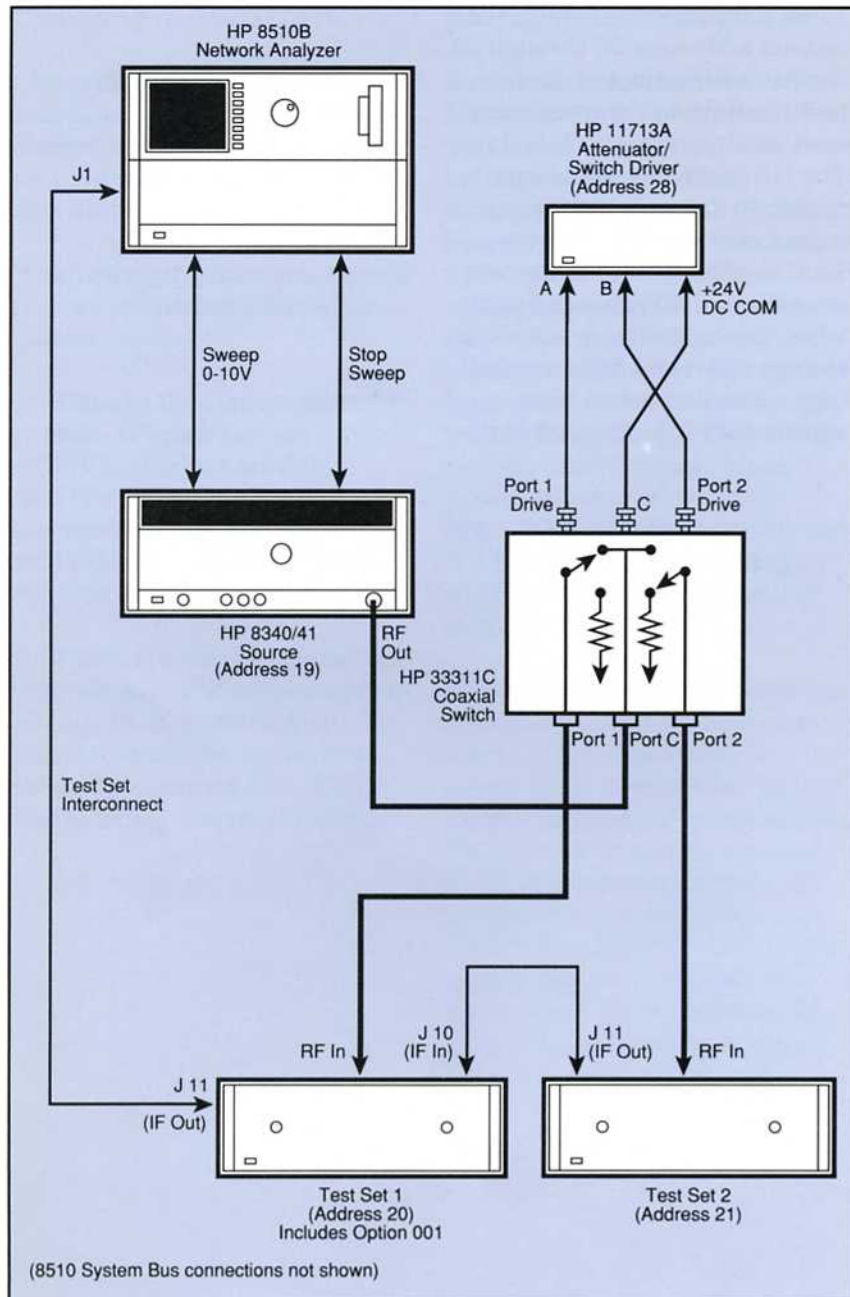
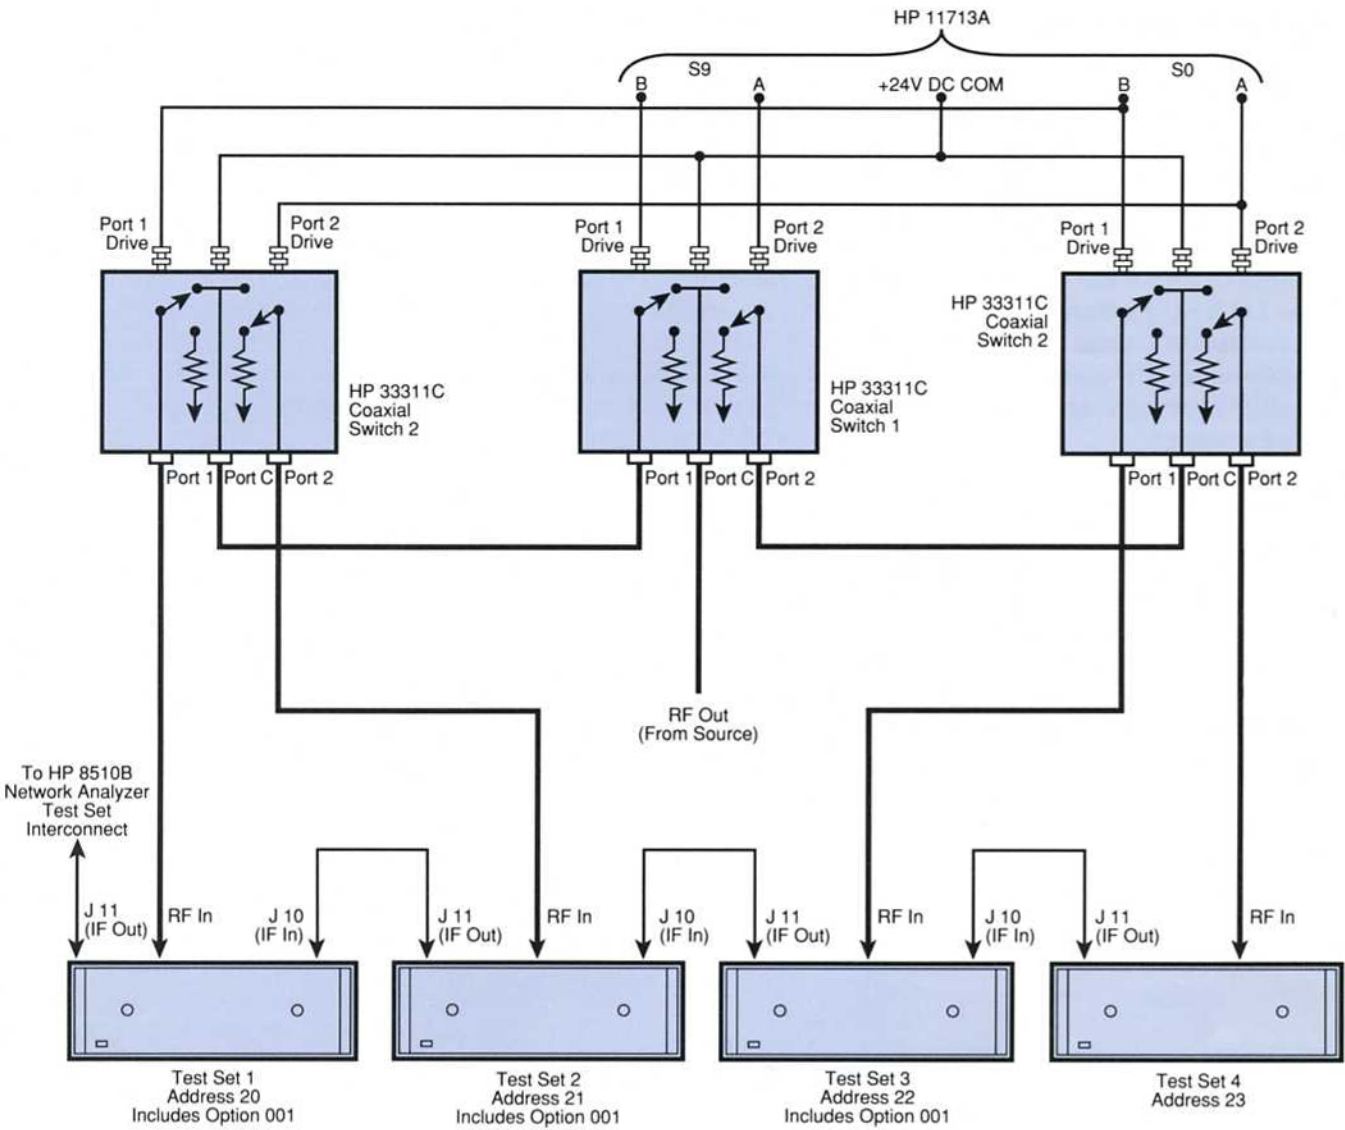

Figure 1. HP 8510 dual coaxial test set configuration.
Figure 2. RF and IF switching with four test sets.
In this section we describe how the RF and IF signals are switched with multiple test sets in the system, beginning with two test sets (see Figure 1).
In the configuration of Figure 1, when test set #1 is active, the IF signals from test set #1 are applied to J11. When test set #2 is active, the IF signals from test set #2 are applied to J10 of test set #1, passed through to J11 of test set #1, and on to the HP 8510B. Note that test set #1 must be configured with option 001 (IF switching), but test set #2 does not require option 001.
The dual test set configuration can be easily extended to include up to four test sets. Figure 2 shows the configuration with four test sets in the system.
1. Connect the equipment as shown in Figure 1. If more than two test sets are used, see Figure 2. Be sure all instruments, including the test sets and the HP 11713A, are connected to the 8510 system interface.